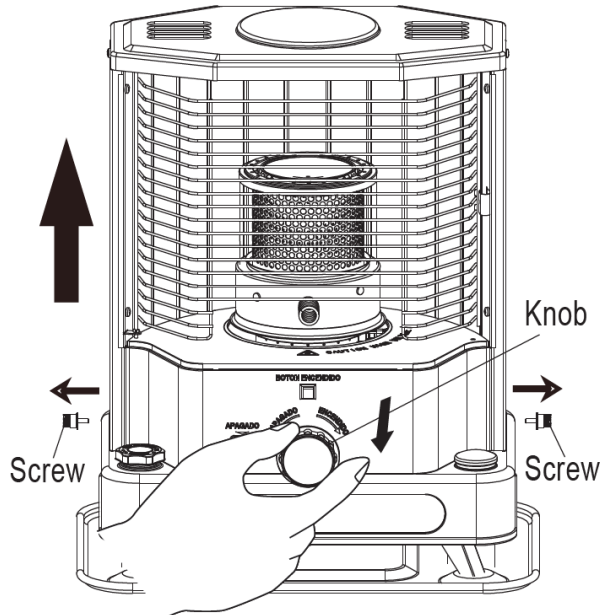

Fig. 13
2. Gently pull the wick adjustment knob off the heater. Use a screwdriver to loosen and remove cabinet screws on either side of the heater cabinet. Use the carrying handle to lift the cabinet straight up and away from the heater.(Fig.13)